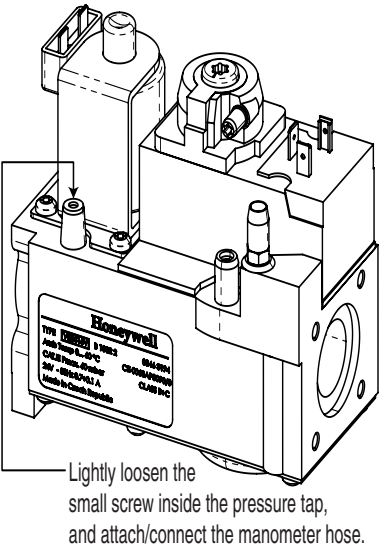

Figure 11.
2. Loosen the small screw inside the pressure tap as shown in Figure 11.